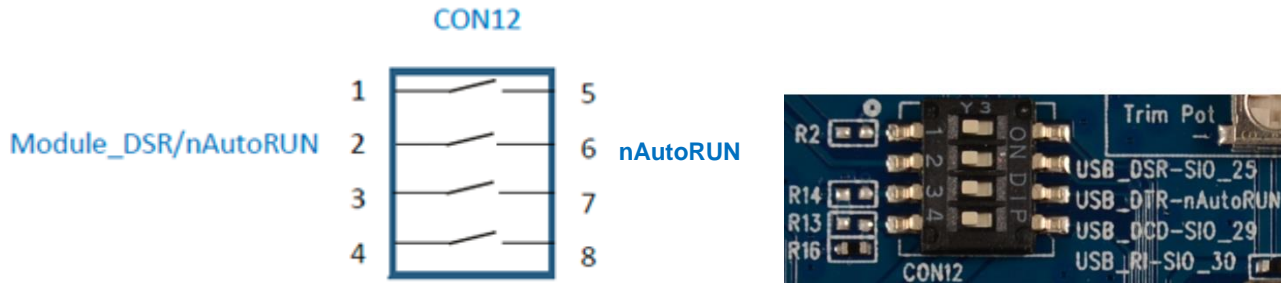

Figure 7: Micro DIP switch CON12 open (nAutoRUN controlled by J6 jumper on pin 1-2)
- CON12 (pin 2-6) **must** be OPEN to allow nAutoRUN (pin3 on BT900) to be controlled by J6 (with jumper fitted to J6 pin 1-2) to select nAutoRUN (Figure 7).